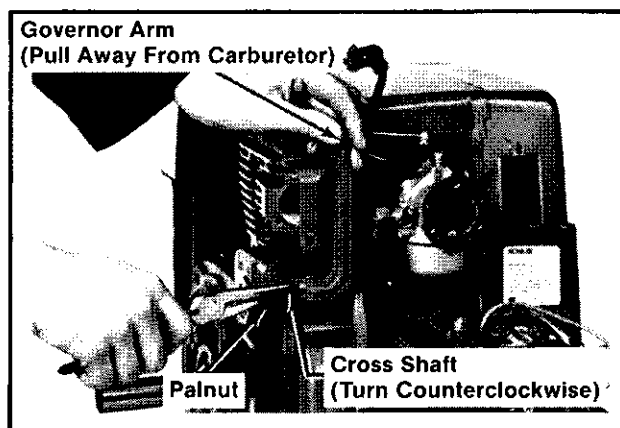

Figure 12B-48. Adjusting Governor Arm/Cross Shaft.
1. Pull the governor arm away from the carburetor as far as it will go. Refer to Figure 12B-48.